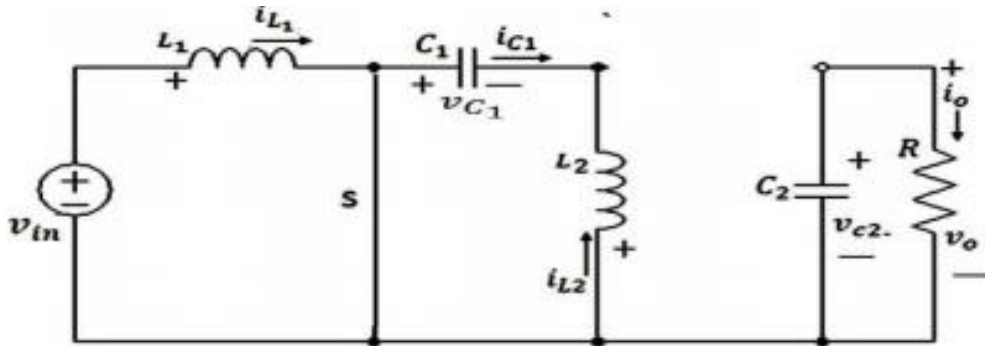
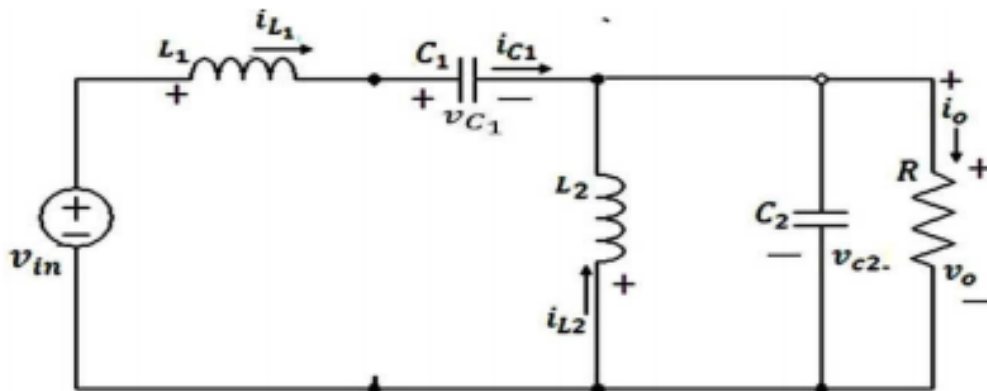

Figure 2 SEPIC converter during switch in ON condition
Figure 3 SEPIC converter during switch in OFF condition
Figure 2 and Figure 3 show the modes of operation of the SEPIC. In Figure 2, when the switch S is closed, the diode is reverse biased, the inductor L_1 is energised by the source voltage V_{in} , while the L_2 charges the capacitor C_1 . The polarity of the inductor current and capacitor is shown in Figure 3. The current i_{L_1} increases at the rate given by equation (1)